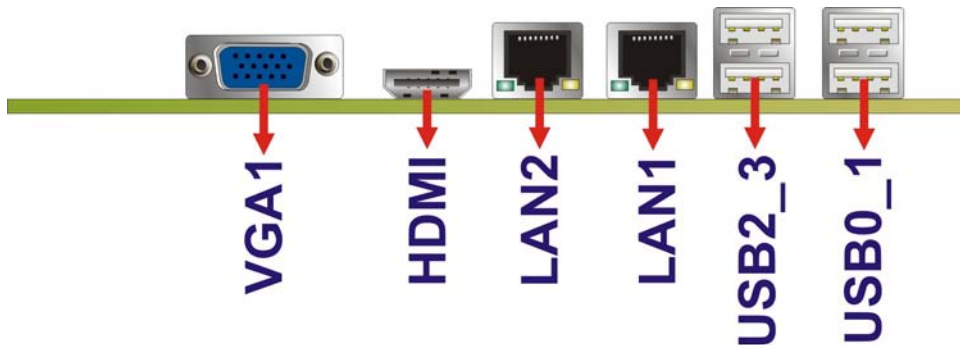

Figure 3-24: NANO-HM650 External Peripheral Interface Connector
Figure 3-24 shows the NANO-HM650 external peripheral interface connector (EPIC) panel. The NANO-HM650 EPIC panel consists of the following:
- CN Location: See **Figure 3-24**
CN Location:	See Figure 3-24
CN Location: See **Figure 3-24**